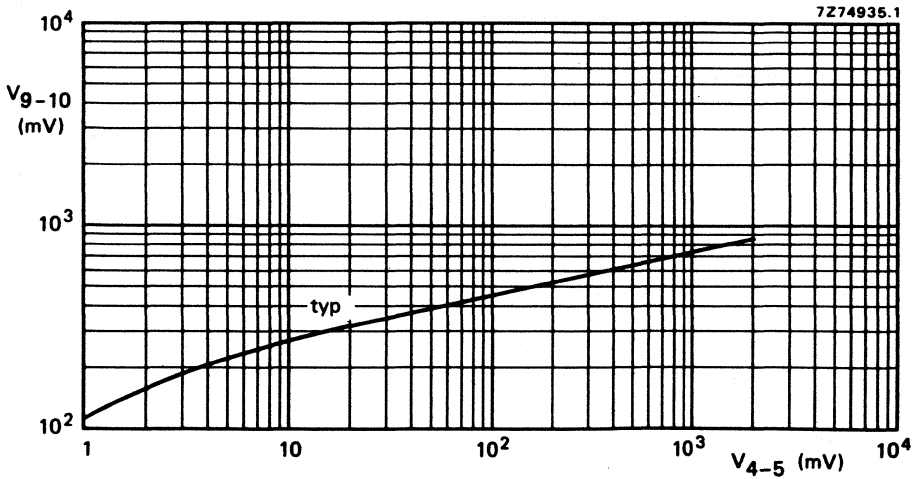

Fig. 8 Automatic level control; for circuitry see Fig. 9; f = 1 kHz.
**Automatic level control (see Fig. 8)**